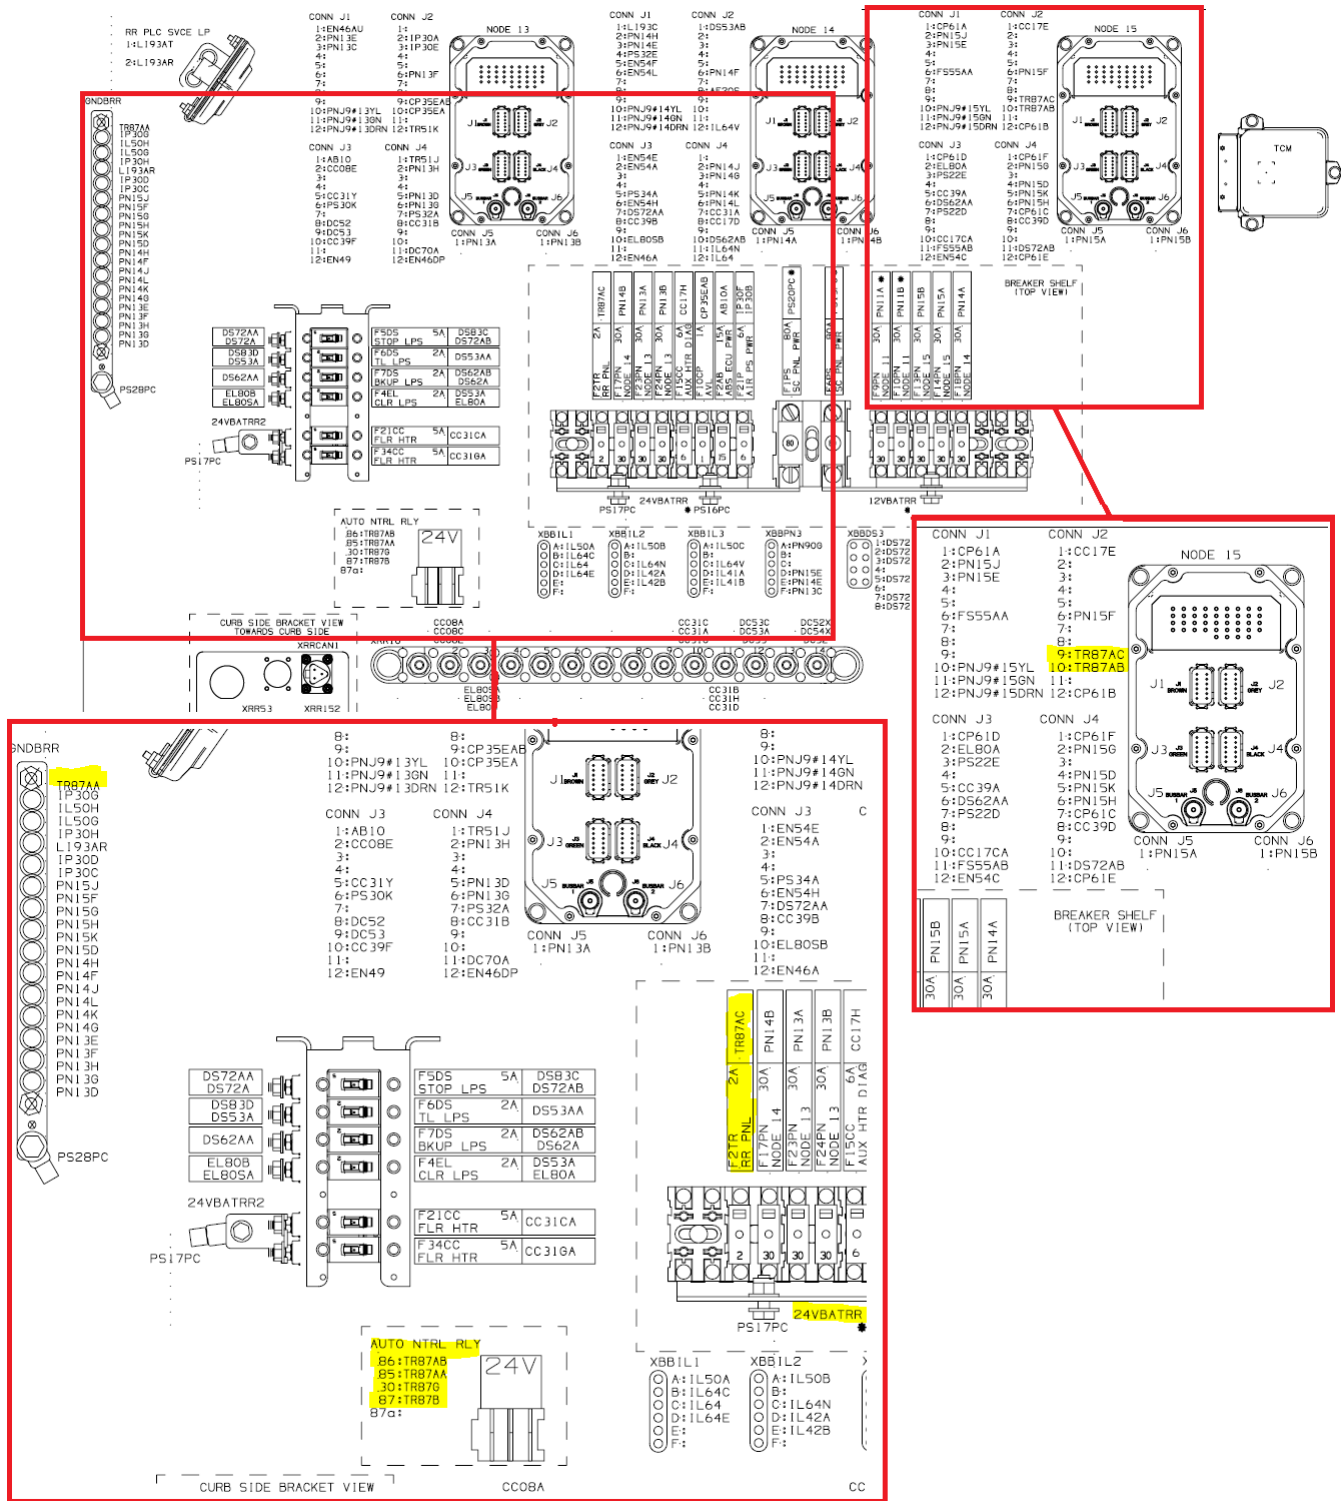
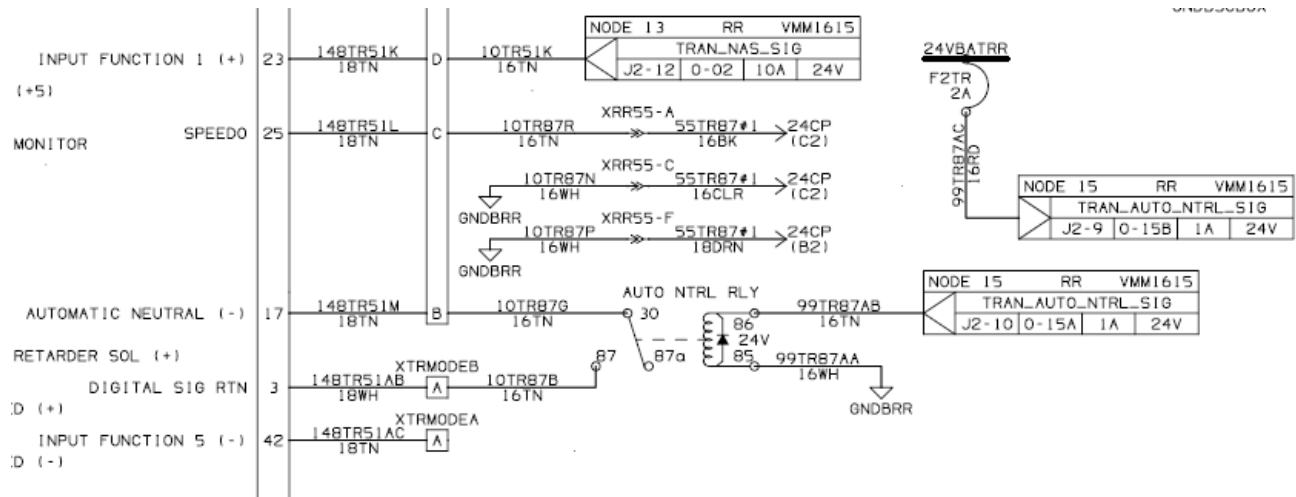

Figure 4: Rear Panel Wiring Diagram
Figure 5: AUTO NTRL RLY schematic
7. Install "F2TR", BREAKER 2A ETA MAN (P/N: 218992) on 24VBATRR as shown in Figure 4.
8. Gain access to supplied HRNS-JUMPER REAR PANEL (P/N: 726572). Locate AUTO NTRL RLY, terminal strip GNDBRR, breaker F2TR and connector NODE 15-J2. Refer to the wiring diagram shown in Figure 4 and the schematic in Figure 5.